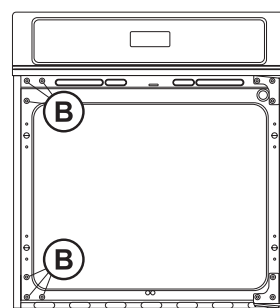

Figure 11
- 3.2.5. Replace the six (6) screws and washers removed on step 1 on the left side of the oven frame (See B, Figure 11).